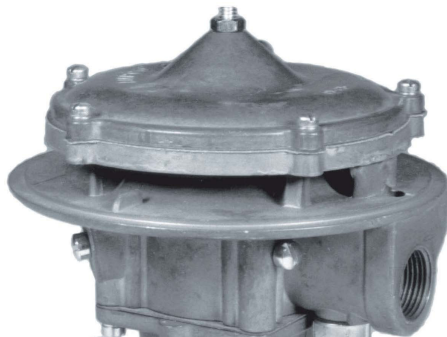

Figure 1-3: 225 Series Mixer
- Figure 1-3..... 225 Series Mixer